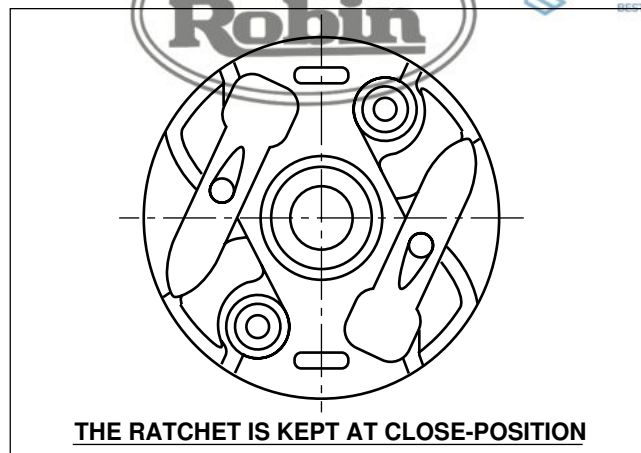

Fig. 9-5
-1: Set the ratchet into the reel. (Fig. 9-5)